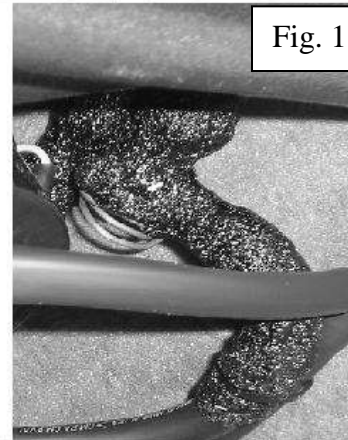

Fig. 1.6
- 13) After the a/c hoses are connected use the black cork tape to cover the metal fittings, and connections at the evaporator box. See figure 1.6